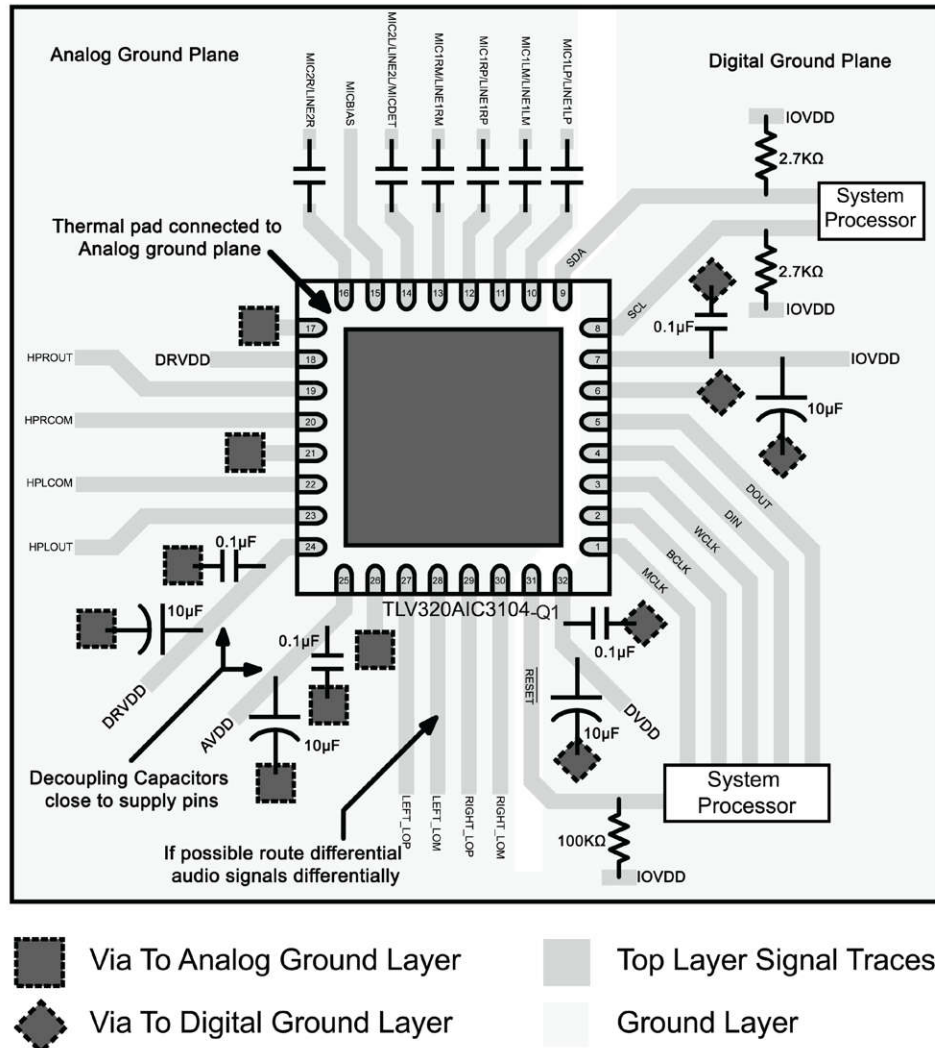

图 9-7. Layout Example
- Following the recommended component placement, schematic layout and routing given in 图 9-7, integrate the device and its supporting components into the system PCB file.